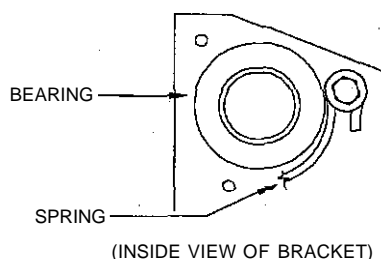

Figure 5.
4.7 Ensure that the door spring is in a relaxed position. Pass a 5/16" bolt with a flat washer through the loop in the end of the door spring and through the nearest of three holes in the door bracket. Secure with a 5/16" whiz nut. Repeat on the other end if the door comes with two springs. ENSURE THAT THE SPRING FITS AROUND THE BEARING IN THE BRACKET BEFORE FINAL TIGHTENING. See Figure 5.